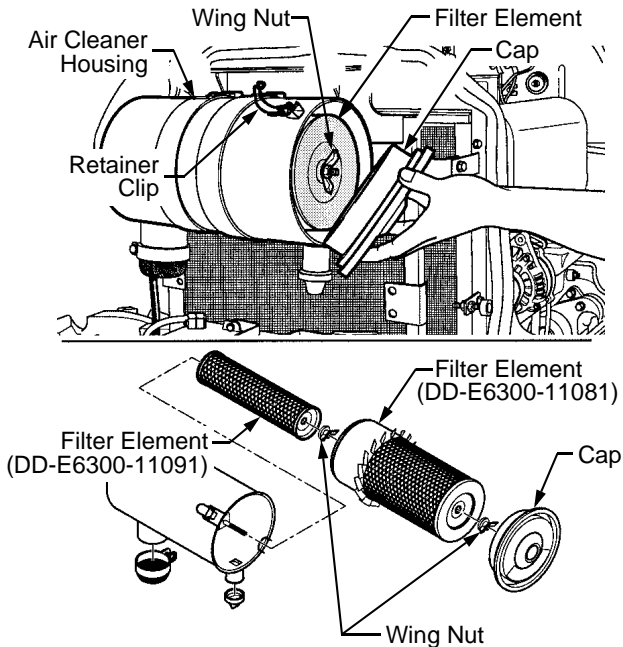

Figure 63
- Unclip the two retainers to remove the cup and wipe out any build-up of dust. See Figure 63.
- Remove the wingnut and carefully withdraw the filter element from the housing. See Figure 63.
- Remove the second wingnut and carefully withdraw the secondary filter element from the housing. Gently blow or brush any dirt from the element. Refer to Figure 63.